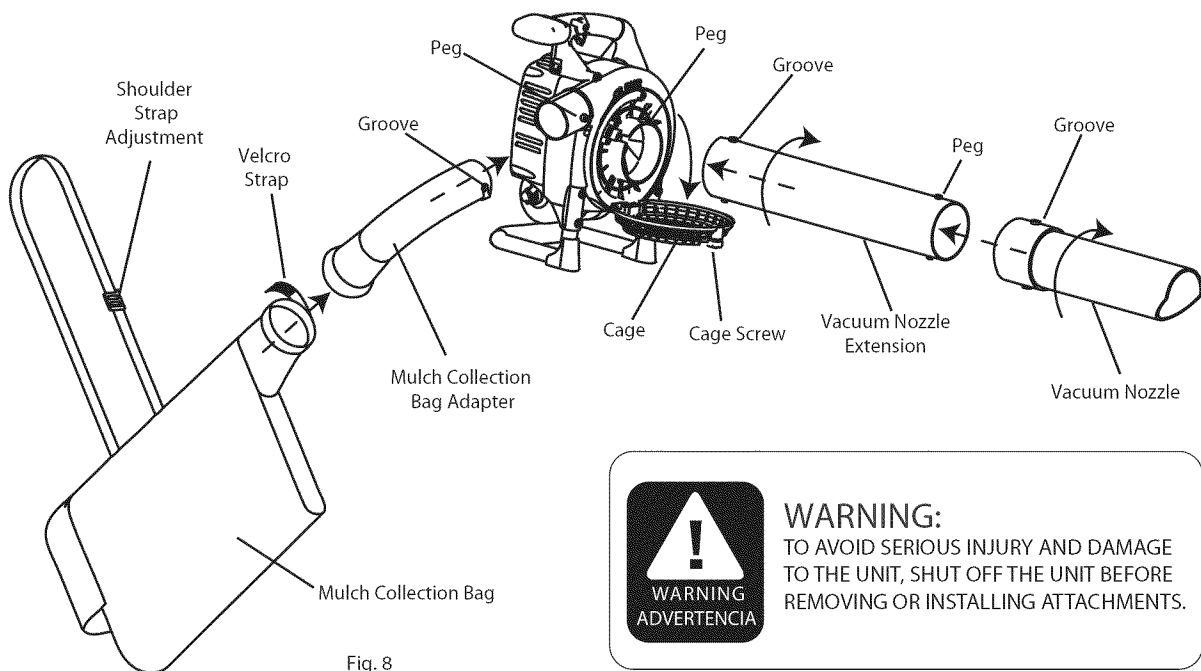

Fig. 8
1. Loosen the Cage Screw and pull down the Cage (Fig. 8).